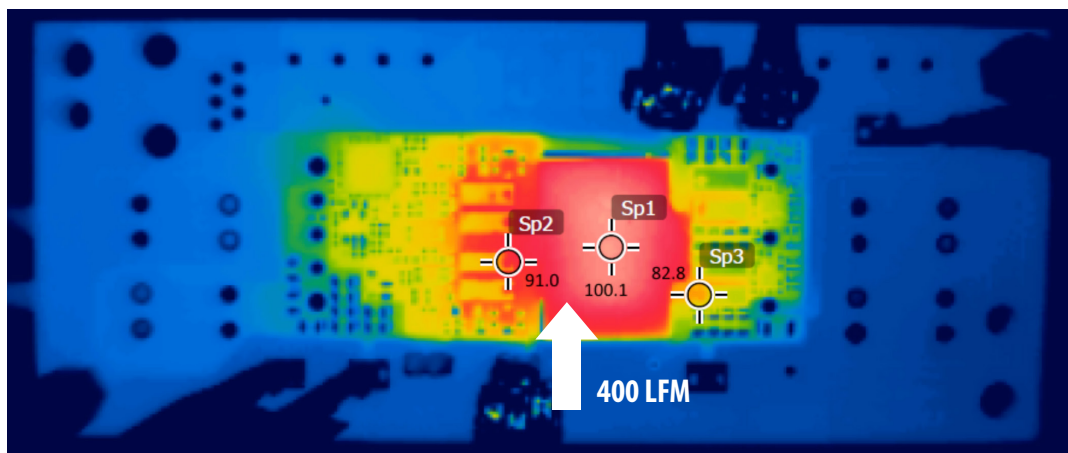

Figure 6: Thermal images of EPC9115. Operating conditions: 400 LFM (2 m/s) forced convection, ambient temperature 27  $^{\circ}$ C, thermal steady state.
**THERMAL MANAGEMENT:** The EPC9115 demo board has no on-board thermal protection. Thermal images for steady state full load operation are shown in Figure 6. The EPC9115 is intended for bench evaluation with nominal room ambient temperature and forced air cooling. Operation without forced air cooling is possible for limited power operation. It is recommended that the maximum temperature on the EPC9115 not exceed 125  $^{\circ}$ C.